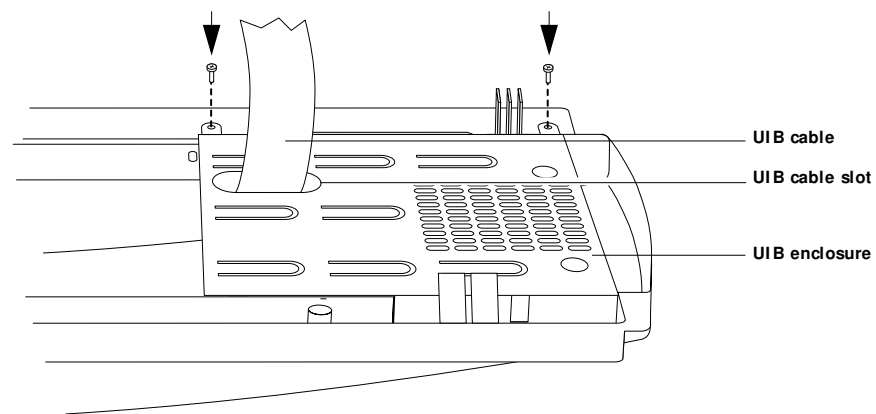

FIGURE 4-14 Removing the UIB enclosure
5. Place the UIB enclosure over the user interface board and secure it with the two screws (see Figure 4-14 on page 4-21).